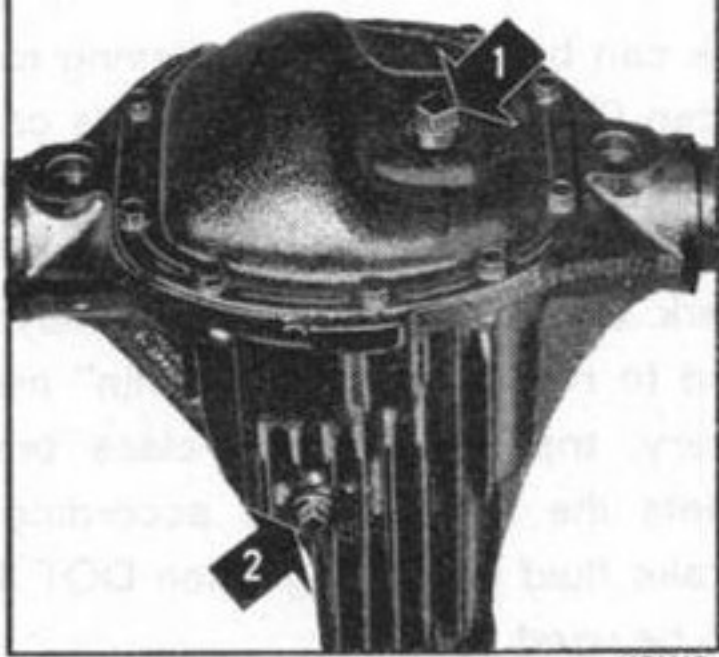

Fig. 1-6. Final drive
To check the oil level, remove the filler plug (1, Fig. 1-6) and then check to ensure that the oil reaches up to the hole for the plug.
The oil should preferably be changed immediately after the vehicle has been driven and while the oil is still warm. When draining the oil, remove the plugs marked 1 and 2 in Fig. 1-6. Clean the magnetic plug (2) well. It is of great importance for the lifetime of the final drive that particles and other impurities accumulated during the running-in are removed.